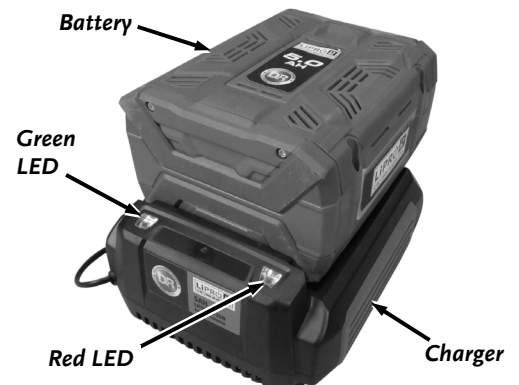

Figure 19
2. Insert the Battery into the Charger (**Figure 19**). Under normal charging the Green LED will Blink.